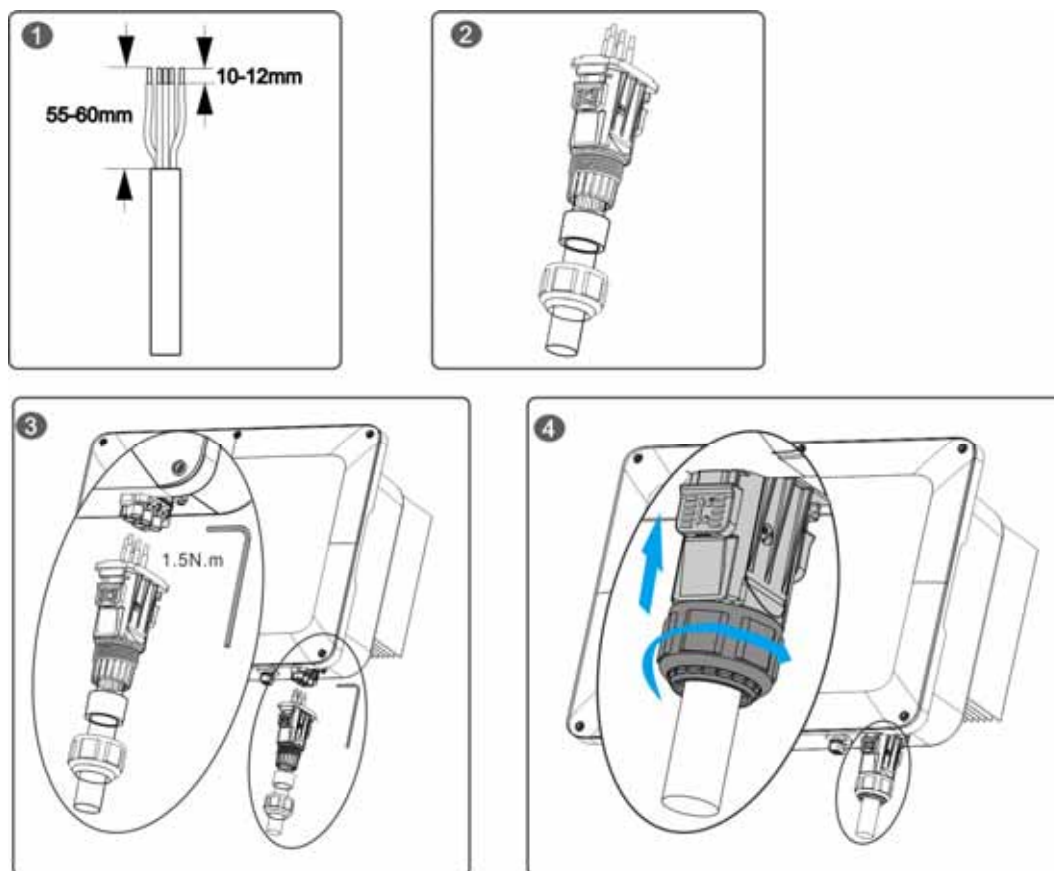

Figure 3-2 Schematic diagram of AC cable installation
- (1) Make an AC cable and strip it as shown in step 1 in Figure 3-2.
- (2) The AC cables are inserted into the AC connectors in sequence.
- (3) Use a hexagonal wrench to fix the AC cable, the recommended torque is 1.5N.m.
- (4) Insert the AC connector, and pull down the buckle to lock it (as shown in step 4).